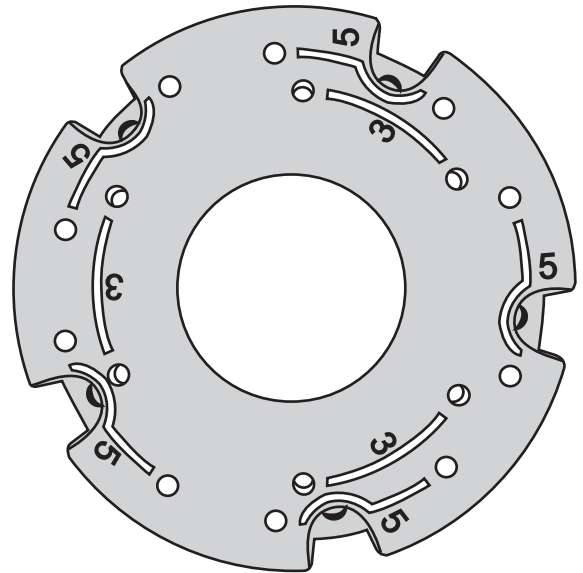

Figure 12
**NOTE:** This fan is supplied with two types of blades for installation. Please reference the important diagram (Fig. 12) when attaching your fan blades.